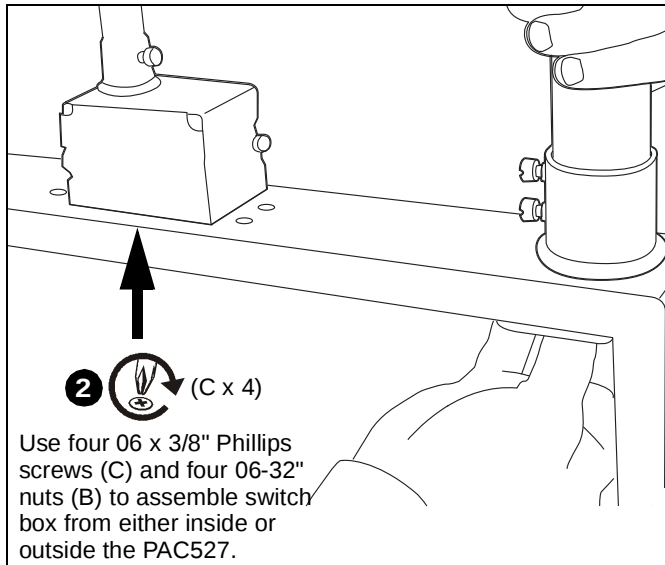

Figure 7
2. Loosely attach required conduit and conduit connectors, switch boxes, outlets, etc (not included) to PAC527 to enable fitting into the wall opening. (See Figure 7)